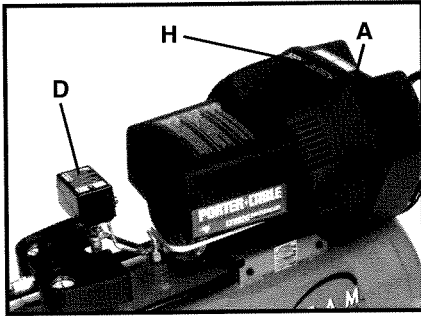

Fig. 1
**Air Compressor Pump (A) Fig. 1:** To compress air, the pistons move up and down in the cylinders. On each downstroke, air is drawn in through the intake valves. The exhaust valves remain closed. On the upstroke of the piston, air is compressed. The intake valves close and compressed air is forced out through the exhaust valves.
**Pressure Switch (D) Fig. 1:** The pressure switch automatically starts the motor when the tank pressure drops below the factory set "cut-in" pressure. It stops the motor when the air tank pressure reaches the factory set "cut-out" pressure.
**Air Intake Filter (H) Fig. 1:** This filter is designed to clean air coming into the pump. This filter must always be clean and free from obstructions. Turn the two cover retaining screws counterclockwise to remove and expose the filter element.